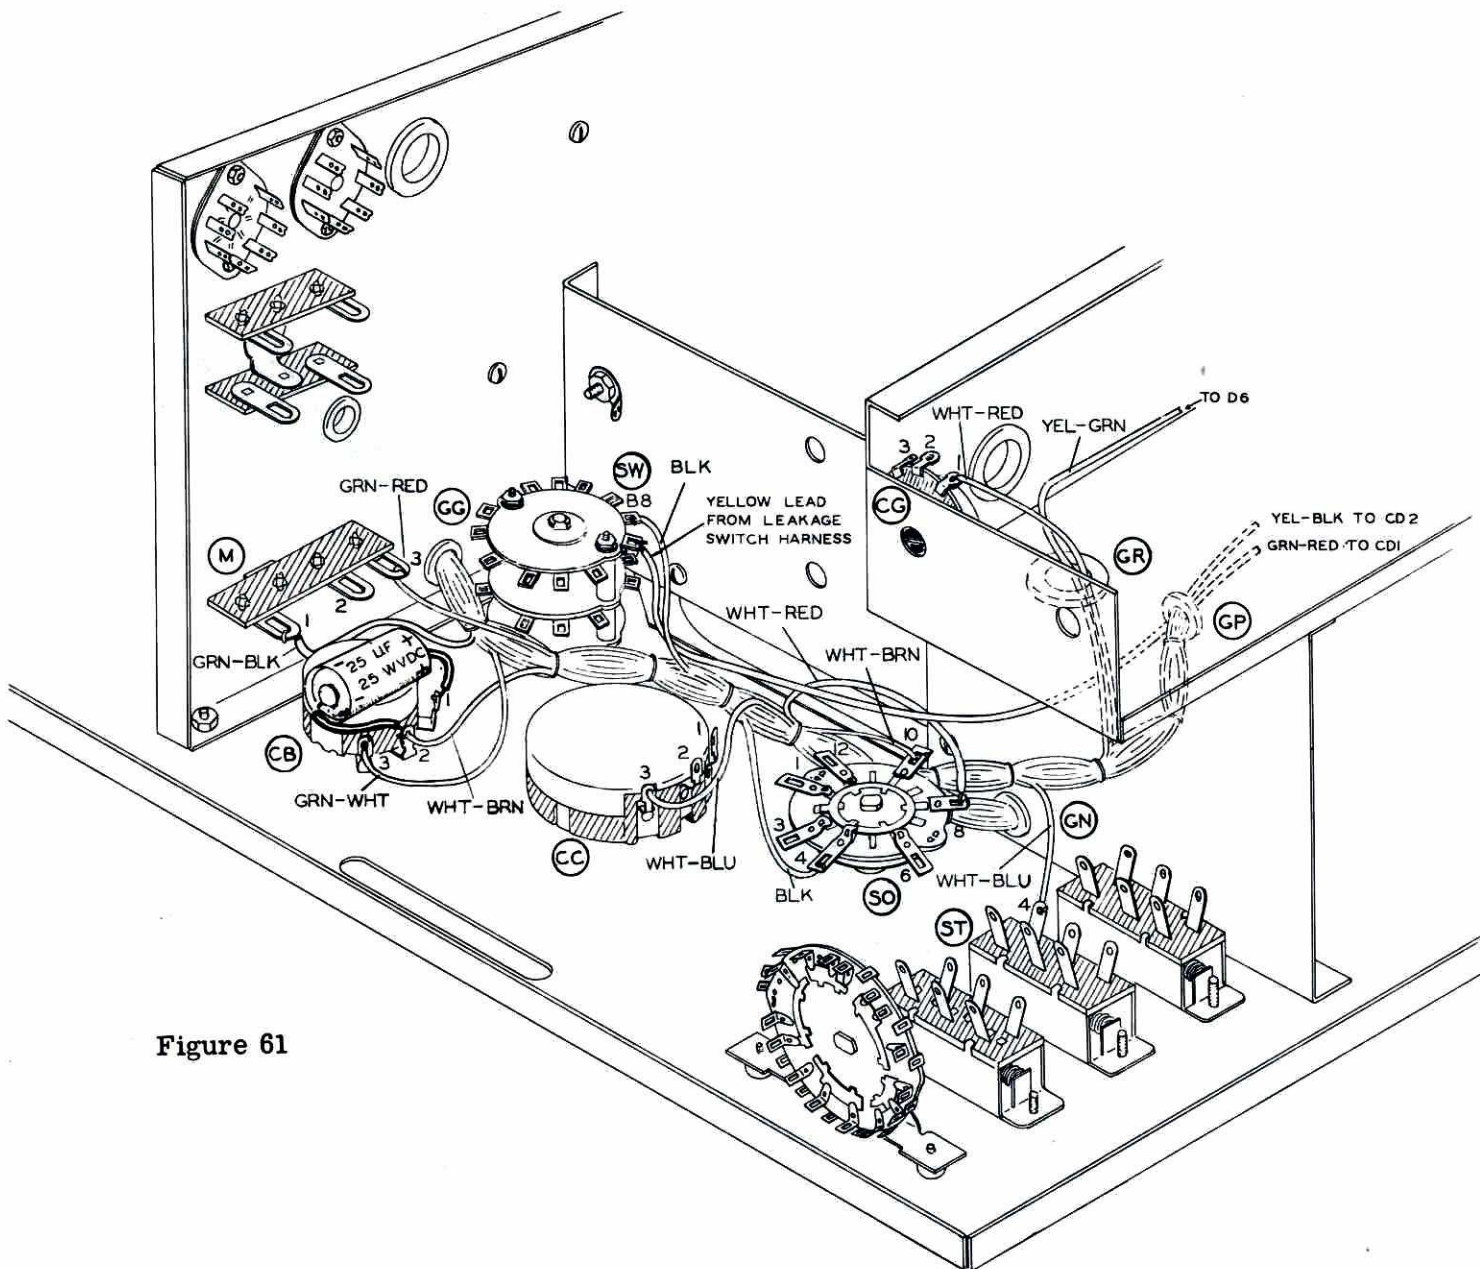

Figure 61
() See Figure 61. Connect the yellow lead from the LEAKAGE switch harness to SWB7 (S-1).
() Connect the yellow-green lead to D6 (NS). See Figures 61 and 62.
() Connect a 25 μ fd, 25 V capacitor from CB1 (S-2) to CB2 (S-2), (negative lead to CB2). See Figure 61. Use sleeving.